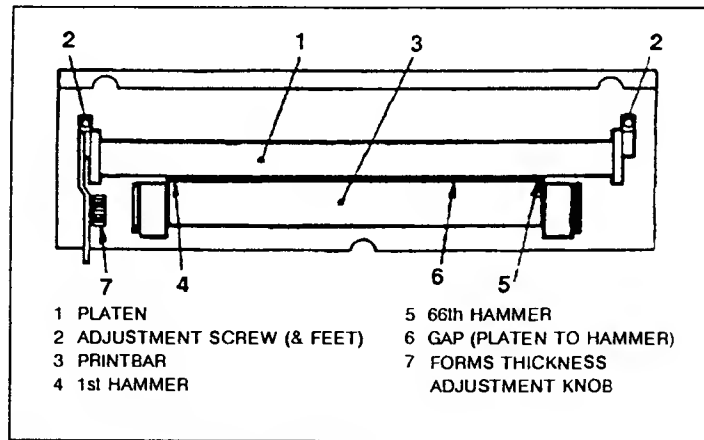

Figure 5-7. Platen Gap Adjustment
- c. Using a straight drive handle with an extension and a 3mm hex driver bit, loosen the two screws which secure the platen mounting feet to the print mechanism (see Figure 5-7, item 2).
at each end of the platen, one under hammer #1 (first hammer) and one under hammer #66 (last hammer) as shown in Figure 5-7, items 4 & 5. Grasp the platen and the print bar with one hand, squeezing them firmly together so that the platen is held snug against the gauges. Tighten the screws.